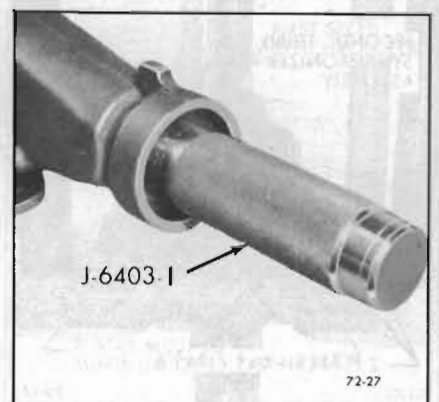

Figure 72-27—Installing Rear Bearing Retainer Bushing
1. Install rear bearing retainer bushing, using Tool J-6403-1. See Figure 72-27.